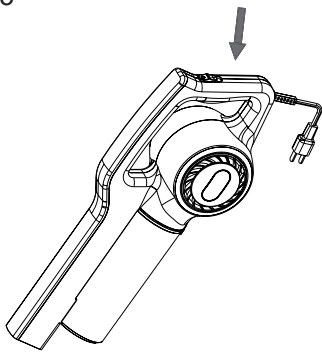

Fig.6
- ◆ Disconnect the dust box from the appliance (Fig.6).